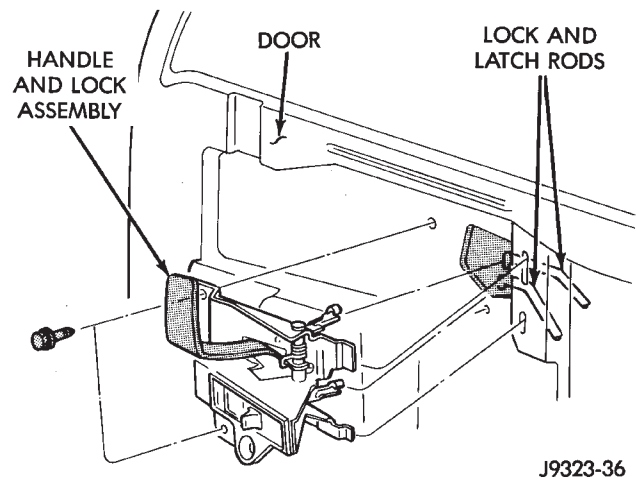

Fig. 19 Front Door Inside Latch Release Handle
- (1) Remove door trim panel and waterdam. If necessary, refer to removal procedure.
- (2) Remove door inside latch release handle screws (Figs. 19 and 20).
- (3) Move door release handle outward. Disconnect handle latch and lock rods.
- (4) Remove door inside release handle from door. For installation, reverse removal procedure.